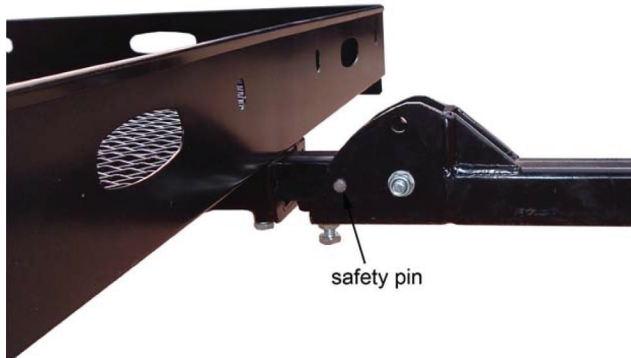

Figure 4-5
5. When in use: Use the safety pin to adjust the hitch. *See Figure 4-5.*